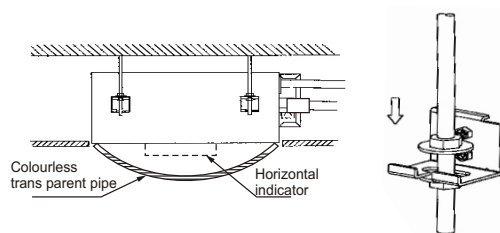

Fig. 18
- Use the transparent hose filled with water to check the level of the main body from the four sides or diagonal line direction, the lever indicator also can check the lever from four sides of the main body. (Refer to Fig.18)